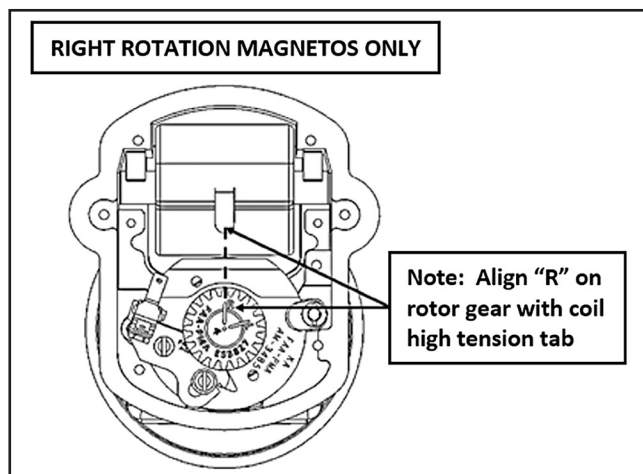

Figure 6.14 – Right Rotation Alignment
- (2) **RIGHT ROTATION MAGNETOS:** Align the gear tooth labeled “R” on the rotor shaft gear (11a) so that it aligns with the high tension lead on the coil (17). Refer to Figure 6.14.